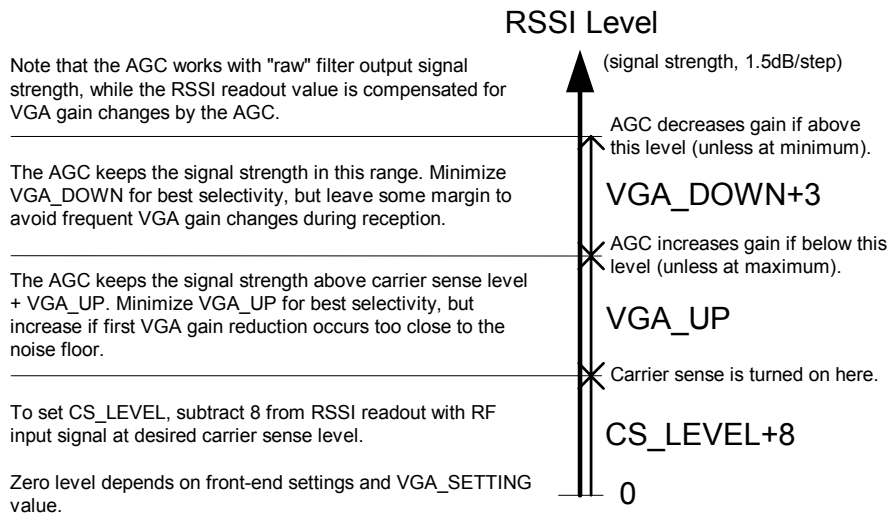

Figure 18. Relationship between RSSI, carrier sense level, and AGC settings *CS_LEVEL*, *VGA_UP* and *VGA_DOWN*
A digital RSSI is used to measure the signal strength after the ADC. The `CS_LEVEL[4:0]` in the `VCA4` register is used to set the nominal operating point of the gain control (and also the carrier sense level). Further explanation can be found in Figure 18.
5. If desired, adjust the *VGA_UP* and *VGA_DOWN* settings according to the explanation in Figure 18.
CS_LEVEL[4:0] sets the threshold for this specific *VGA_SETTING[4:0]* value. If the *VGA_SETTING[4:0]* is changed, the *CS_LEVEL[4:0]* must be changed accordingly to maintain the same absolute carrier sense threshold. See Figure 18 for